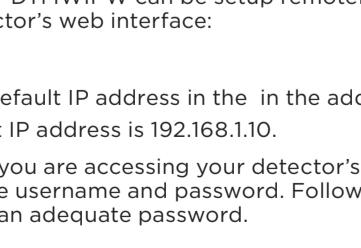

Fig. 3
2. Install the Cat5e / Cat6 through the provided hole on the rear of the detector. Terminate the Cat5e / Cat6 cable using an RJ45 connector leaving enough cable to connect to the RJ45 port. Refer to Fig. 3.